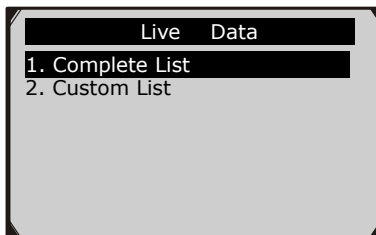

Figure 6.11
- 1) To view complete set of data, use **UP/DOWN** scroll button to select **Complete List** from **Live Data** menu and press the **OK** button. (Figure 6.11)
- 1) To view customized PID data, use the **UP/DOWN** scroll button to select **Custom List** from **Live Data** menu and press the **OK** button. (Figure 6.11)